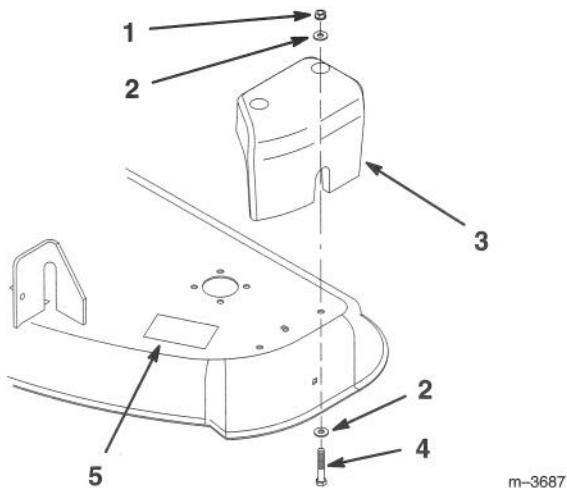

Figure 34
1. Remove the counterweight from the left-hand side of the mower (Fig. 34).